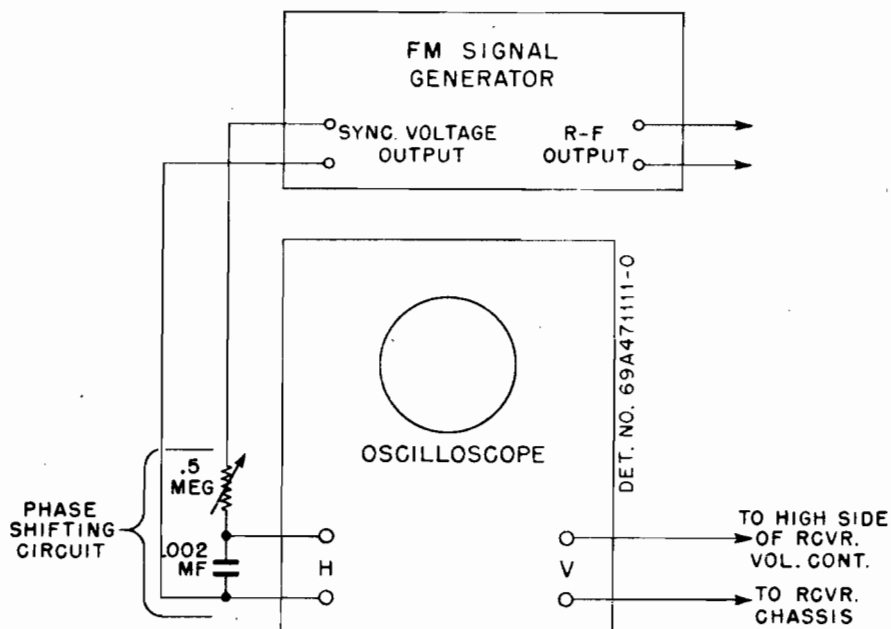
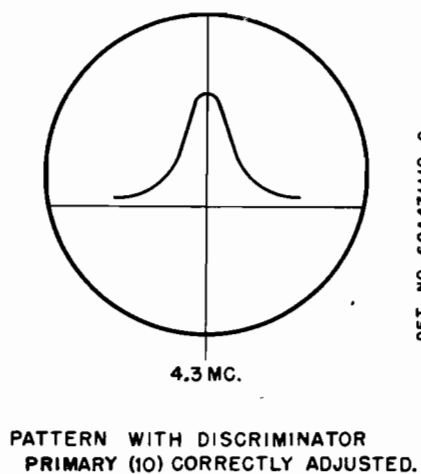

FIGURE 7. SIGNAL GENERATOR & OSCILLOSCOPE HOOK-UP
FIGURE 8.
Location of the radio is important when it is operated on its built-in loop antenna. Moving the set even a few feet away from its present location may increase or reduce signal strength by more than 50% because a stronger signal may exist at one location than another. Therefore, in homes where reception is poor, you may be able to improve it by placing the set against another wall. The Motorola figure 8 loop antenna is omnidirectional.
2. Connect the FM generator synchronizing voltage output terminals to a phase shifting network, consisting of a variable $1/2$ megohm resistor in series with a .002 mf capacitor. The input to the oscilloscope horizontal amplifier is connected across the .002 mf capacitor. See Figure 7. (This phase shifting network may not work with every oscilloscope. Different values of R & C may be required).
4. Screw discriminator secondary core (9) out as far as it will go.
5. Adjust discriminator primary until the pattern obtained on the scope is symmetrical about the vertical axis. The phase shifting network resistor is adjusted to give only one trace. The pattern obtained is the resonance curve of the primary, whose maximum response should be at exactly 4.3 Mc. (See Figure 8).